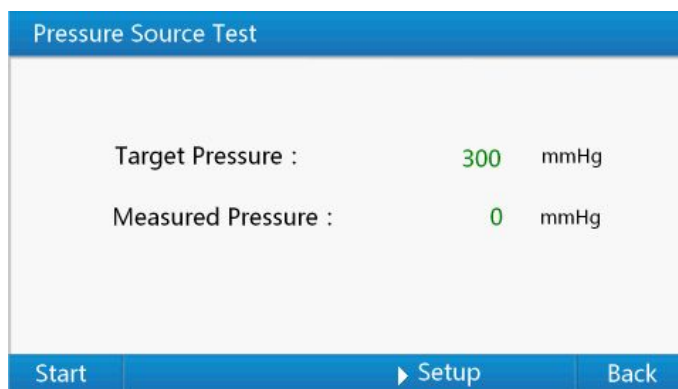

Figure 14 Pressure source test interface
- 1) Use up or down key in "**Pressure Test Menu**" to select "**Pressure Source**", then press "**Enter Key**" to "**Pressure Source Test**" interface shown as Figure 14. Pressing "**Return Key**" in this interface can get back to "**Pressure Test Menu**". As a shortcut, you can use the number key "**3**" to "**Pressure Gauge Test**" interface firstly, then press "**Enter Key**" to the "**Pressure Source Test**" interface.